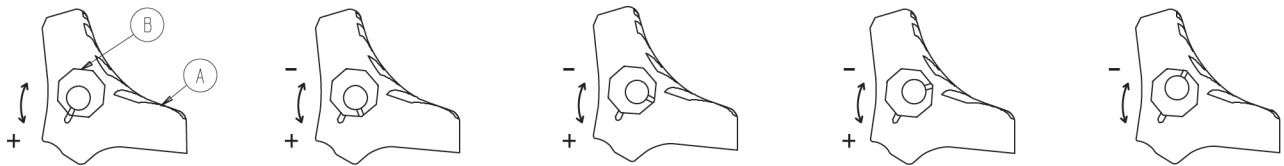

Figure 7 – Wheel locking force adjustment
1. Using a 5/32" hex wrench and 7/16" combination wrench or socket, remove the socket screw from the center of the lock pedal. Save the screw. The wheel lock is initially assembled with the pedal set at the minimum locking force. The marker on the pedal (A) is aligned with the marker on the octagonal sleeve (B) (Figure 7).
2. Remove the octagonal sleeve (B). Rotate the octagonal sleeve counterclockwise to increase the pedal locking force and clockwise to decrease the locking force. Insert the octagonal sleeve into the pedal.